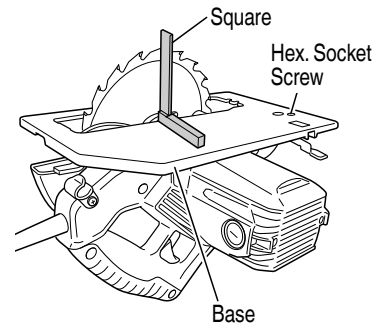

Fig. 20
- (1) Turn the base face up (Fig. 20) and loosen the lever (A).
- (2) Apply a square to the base and the saw blade and, turning the Hex. socket screw with a Hex. bar wrench, shift the position of the base to produce the desired right angle.